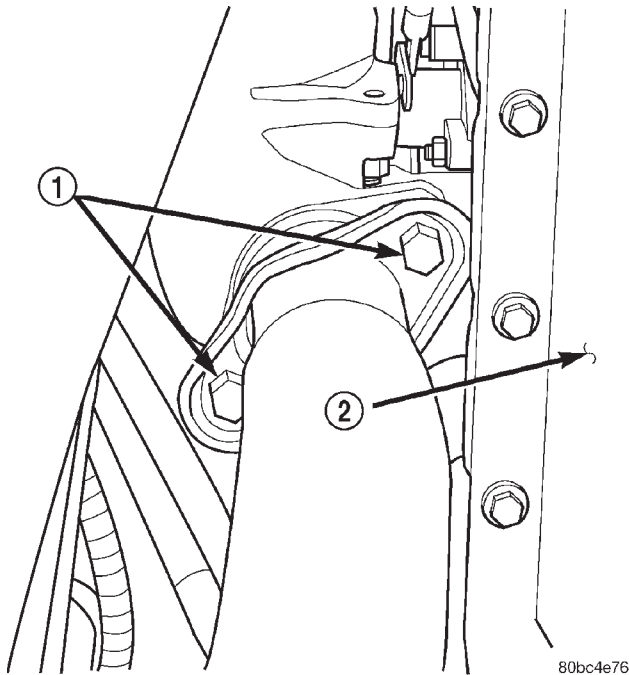

Fig. 27 Exhaust System Inlet Pipe
(23) Rotate the engine assembly to access and install the (4) torque converter to flexplate retaining bolts. Torque the bolts to 75 N·m (55 ft. lbs.).
(24) Install the wire harness support bracket on the left engine mount.
(25) Install the exhaust system inlet pipe on the turbocharger (Fig. 27). Torque the bolts to 41 N·m (30 ft. lbs.).